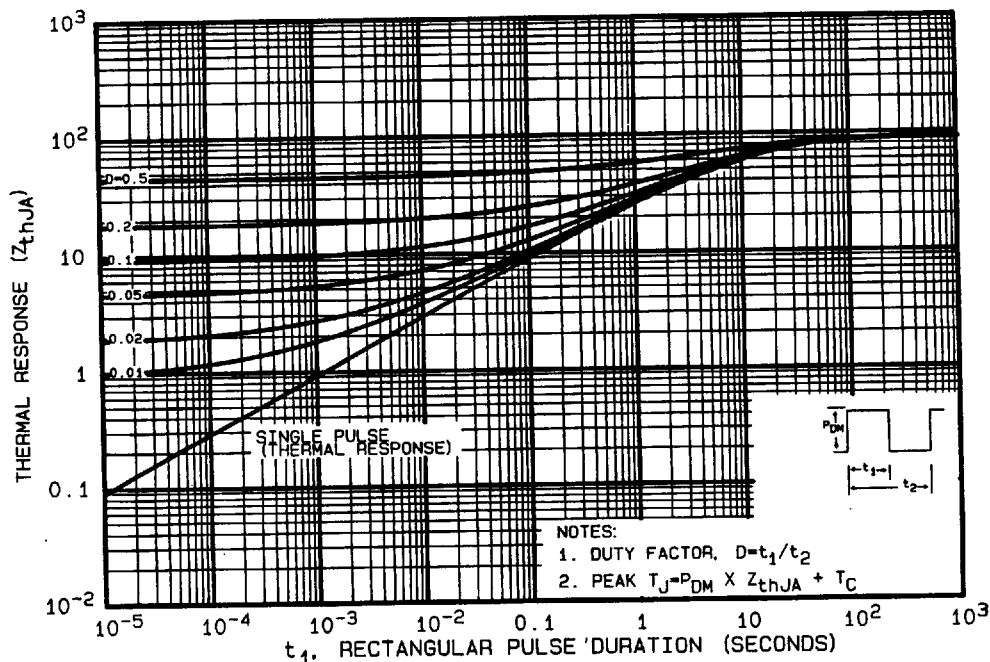

Fig. 9—Maximum Effective Transient Thermal Impedance, Junction-to-Ambient Vs. Pulse Duration
① Repetitive Rating; Pulse width limited by maximum junction temperature (see figure 9)